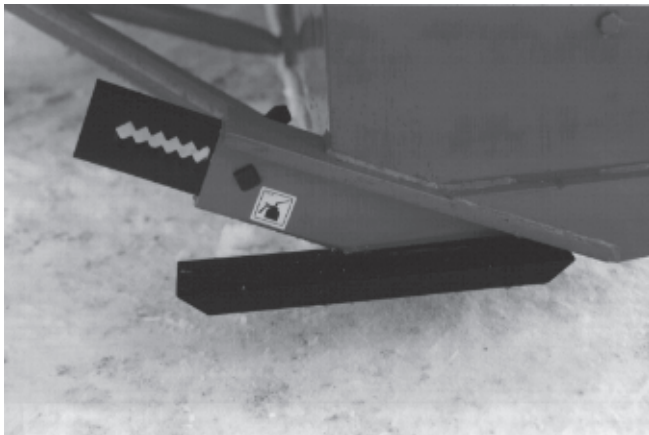

Figure 26
- 5) Adjust skid shoes according to ground conditions (Fig. 26).